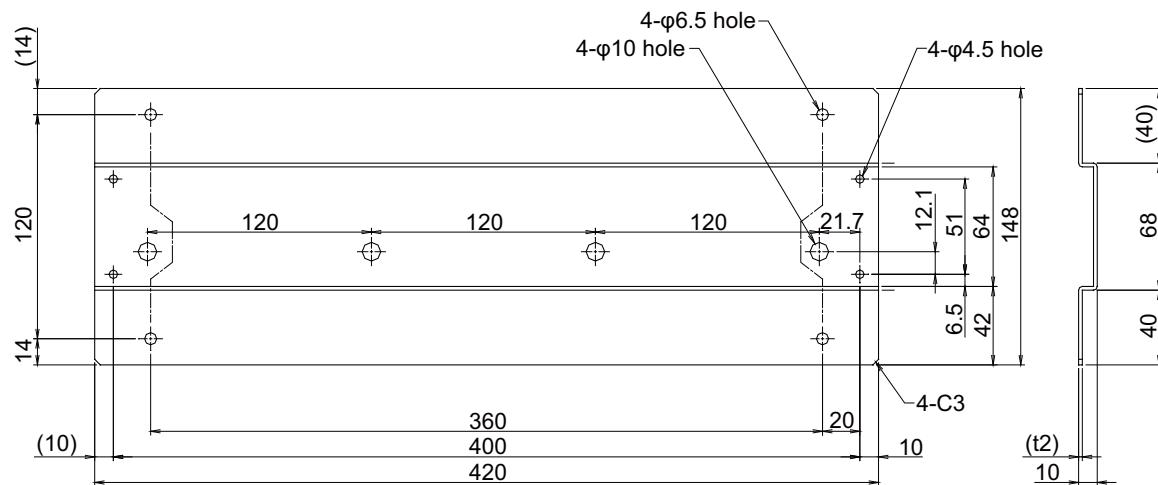

Fig.3-4: Reference figure of the fixing metal plate for vertical installation
**⚠ CAUTION** Fixing installation section sure for prevention from the fall, when using the controller placing vertically. The reference figure of the metal plate for fixing is shown in Fig. 3-4.